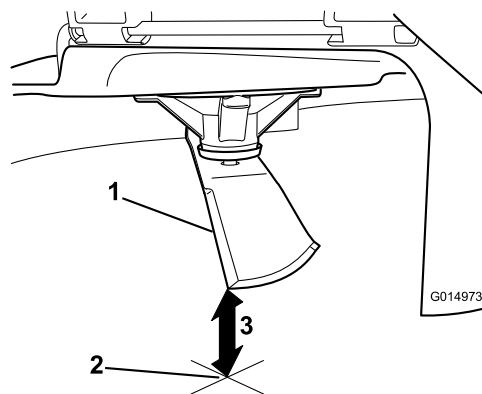

**Figure 49**
3. Measured distance between blade and the surface (A)
4. Rotate the same blade 180 degrees, so that the opposing cutting edge is now in the same position (Figure 49).